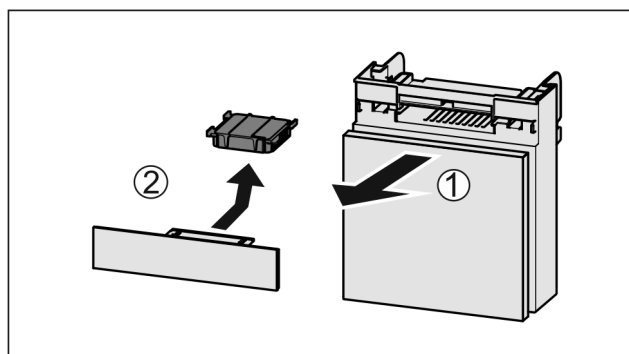

Fig. 57
- ▶ Pull out the compartment *Fig. 57 (1)*.
- ▶ Remove the carbon filter *Fig. 57 (2)*.